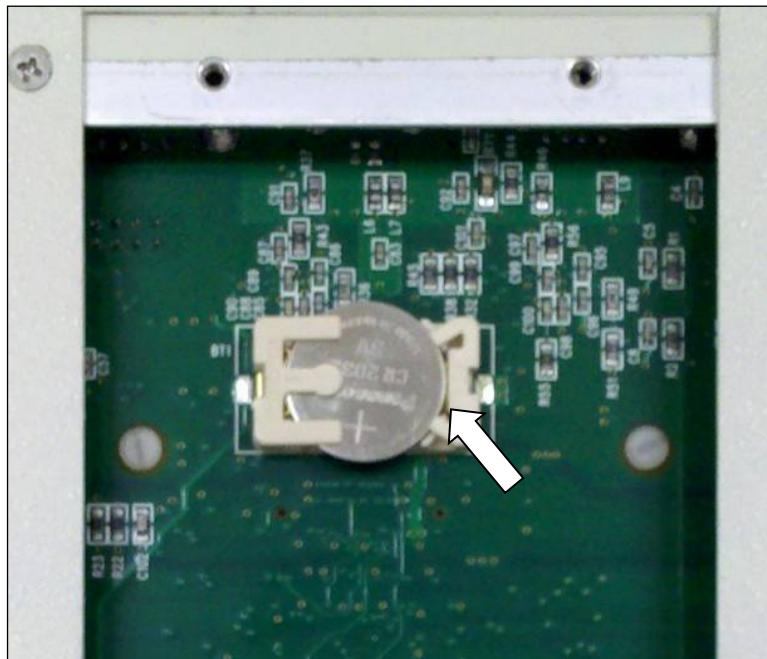

Figure 15-9
- c. Press down on the battery as shown in Figure 15-9 until a click is heard.